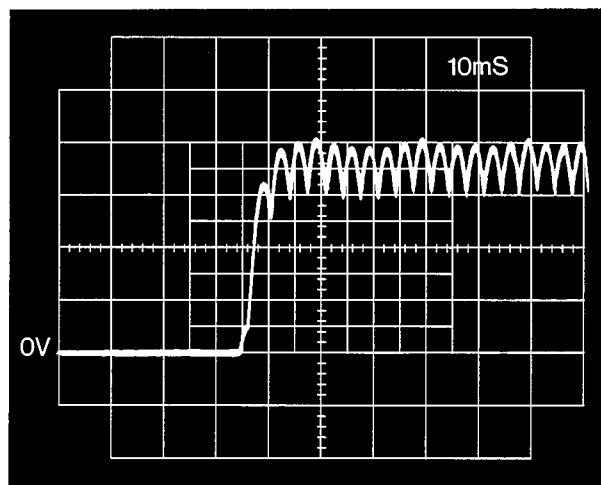

Fig. 6.4.1.3.1 Ideal overall setting
- Connect reference value potentiometer as shown in Fig. 6.4.1.1